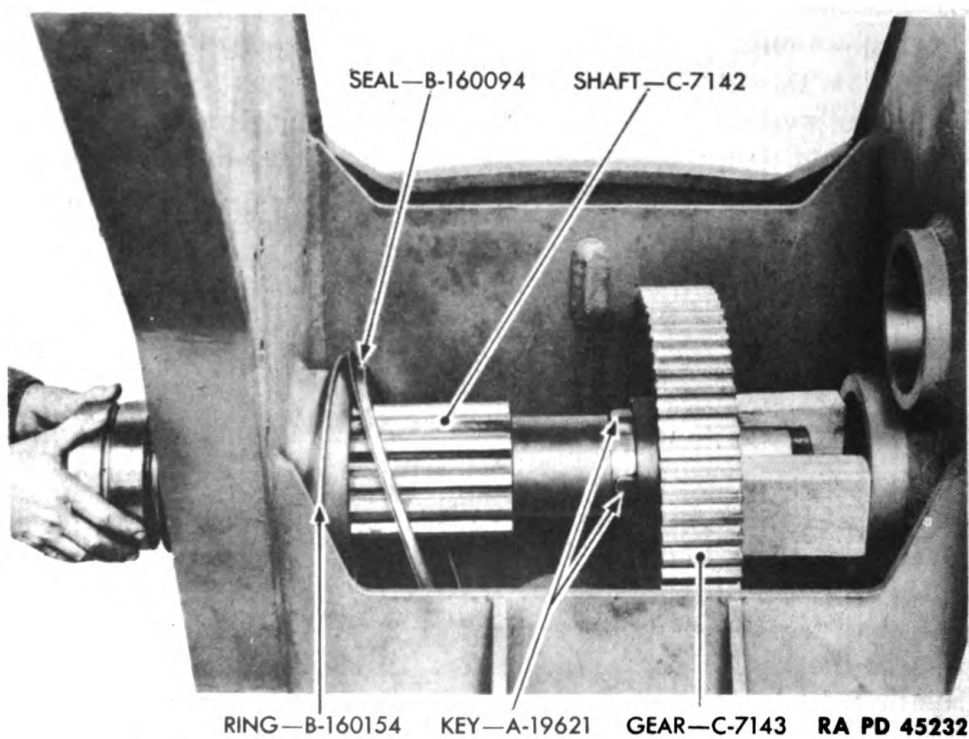

Figure 197—Installing Elevating Shaft Gear
(1) Insert the elevating shaft through opening in left side of top carriage and let pinion rest in opening of top carriage (fig. 170). Slide the elevating gear cover ring over the right end of elevating shaft and follow with elevating gear cover seal. **NOTE:** Install seal with large diameter flange toward left side of top carriage (fig. 197).
(2) Coat the three elevating gear keys, the elevating shaft where the elevating gear seats, and the bore of the elevating shaft gear with **COMPOUND**, rust-preventive, light. Insert the keys in the shaft and slide shaft and keys into gear. Use two 2- x 4- x 6-inch wood blocks between the inside right face of the top carriage and the elevating gear; then push or drive the shaft into gear (fig. 197).